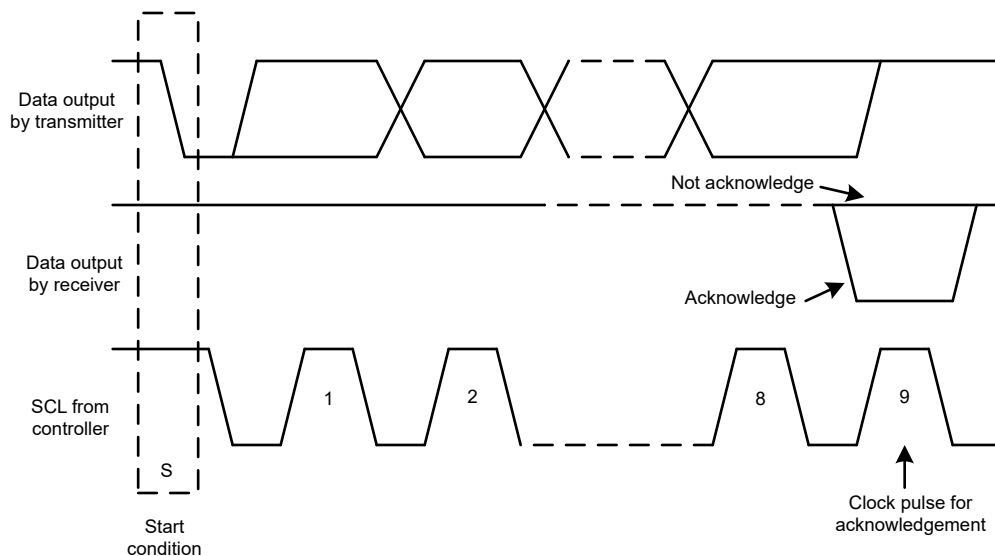
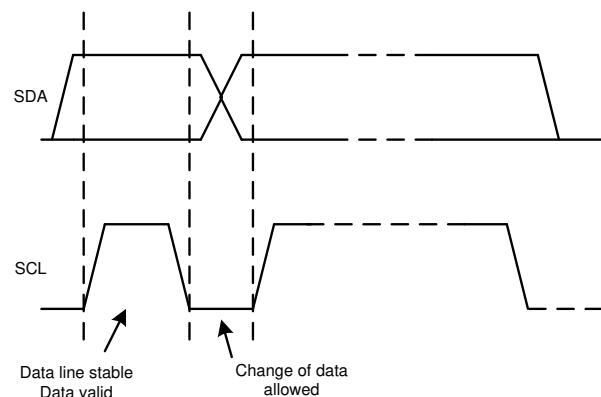

Figure 7-15. Acknowledge and Not Acknowledge on the I²C Bus
Figure 7-17. Bit Transfer on the I²C Bus
Other than specific timing signals, the I²C interface works with serial bytes. At the end of each byte, a ninth clock cycle generates and detects an acknowledge signal. An acknowledge is when the SDA line is pulled low during the high period of the ninth clock cycle. A not-acknowledge is when the SDA line is left high during the high period of the ninth clock cycle, as shown in Figure 7-15.
2. The controller then generates the SCL pulses, and transmits the 7-bit address and the read/write direction bit (R/\overline{W}) on the SDA line. During all transmissions, the controller makes sure that data are valid. A valid data condition requires the SDA line to be stable during the entire high period of the clock pulse, as shown in Figure 7-17. All devices recognize the address sent by the controller and compare the address to the respective internal fixed address. Only the target device with a matching address generates an acknowledge by pulling the SDA line low during the entire high period of the 9th SCL cycle, as shown in Figure 7-15. When the controller detects this acknowledge, the communication link with a target has been established.